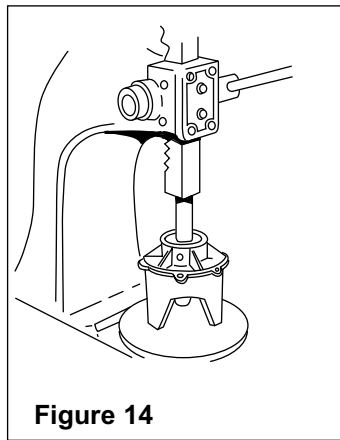

Figure 14
7. To remove the rotor with shaft from the end plate – support the end plate in an end plate support fixture with the rotor down. Center the bearing disassembly tool or 3/8" bolt on pump shaft. Apply pressure to press shaft out of ball bearing (See Figure 14).